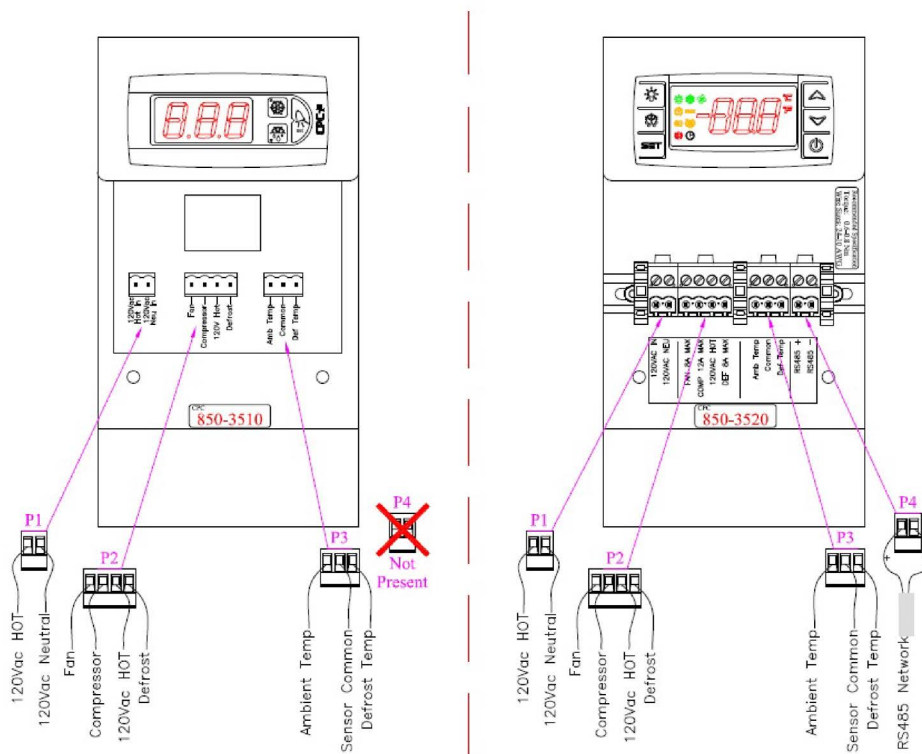

Figure 2 - Retrofit Diagram Model
7. Reconnect the plug-in connectors P1, P2, and P3 to the XR75CX pre-wired terminal strips. (Note that the placement of the connections will be in the same order as the original layout). See Figure 2 - Retrofit Diagram Model.